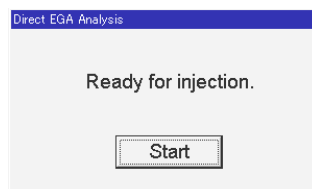

Fig. 4.19 Dialog Box Showing Start of Heart-Cut EGA Analysis
10. A dialog box shown in Fig. 4.19 will be displayed if GC, Pyrolyzer, interface and Selective Sampler are all ready. Manually press down the double shot sampler located at the top of the Pyrolyzer to introduce the sample cup into the pyrolyzer furnace. Immediately after this, click "START" button in the dialog box or hit "ENTER" key of the keyboard.